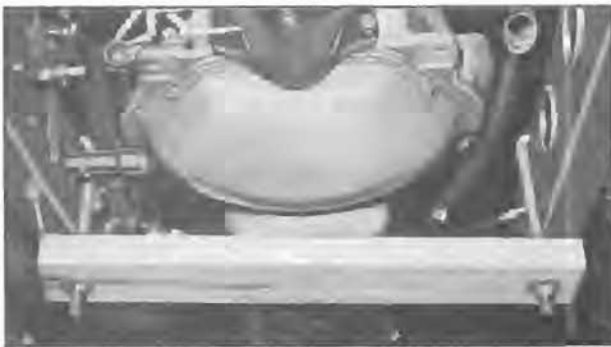

Figure 4-26—Support Bar under Rear End of Engine
4. Support rear end of engine by installing support bar (fig. 4-25) under rear end of lower crankcase. Place left side hook over frame between brake master cylinder and clutch release equalizer. Tighten nuts on both hooks evenly. See figure 4-26.